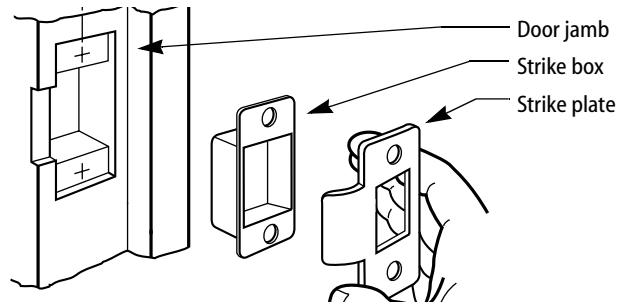

Figure 7
- 2 Insert the strike box and secure the strike with screws provided (see Figure 7).